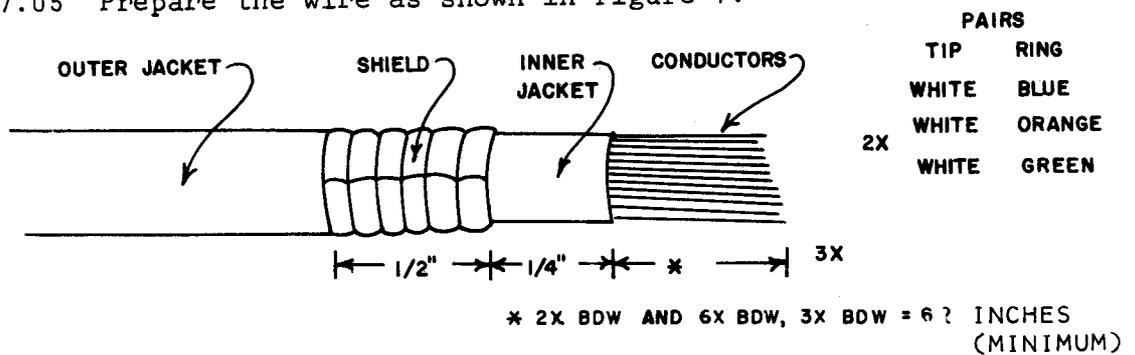

FIGURE 7
- 6.13 Prepare the wire as shown in Figure 7.
7.05 Prepare the wire as shown in Figure 7.
- 7.19 Prepare the wire as shown in Figure 7.